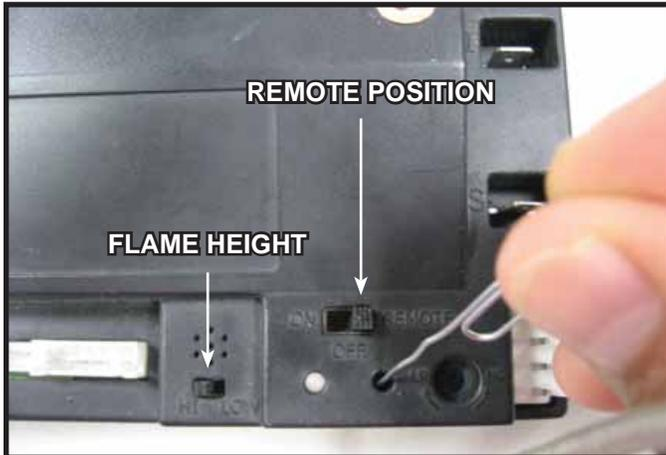

Figure 5. Programming RC100
- Verify the ON/OFF/REMOTE switch is in the REMOTE position. Green LED light will blink three times and beep once 5 seconds later when ready. See Figure 5.
- Using a small item (such as a paper clip) press and release the learn button located near the ON/OFF/REMOTE switch. See Figure 5.
The flame height can be adjusted by sliding the HI/LOW switch to the desired setting. See Figure 5. If the HI/LOW switch is in the LOW position the burner flame will adjust to LOW ten seconds after ignition.
- Move switch to OFF (See Figure 5).